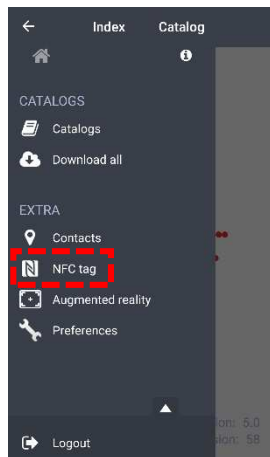

Figure 4
- Activate the NFC functionality on the smartphone and click on 'NFC tag' (Figure 4).